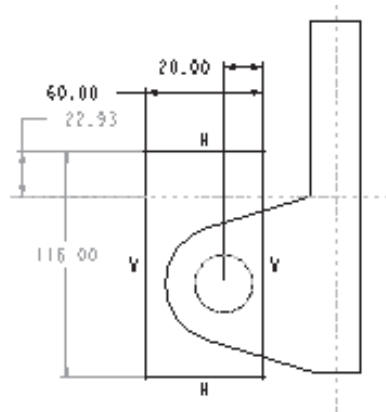

Figure 5-63 Sketch with dimensions and constraints for the cut feature
9. Draw the sketch for the cut feature and apply and modify the dimensions as shown in Figure 5-63.
In Figure 5-63, some dimensions appear light in color. These dimensions are weak dimensions and it is not important to convert them into strong dimensions. These dimensions are not important for the creation of this feature. However, the geometry for the cut should be similar to that shown in Figure 5-63.